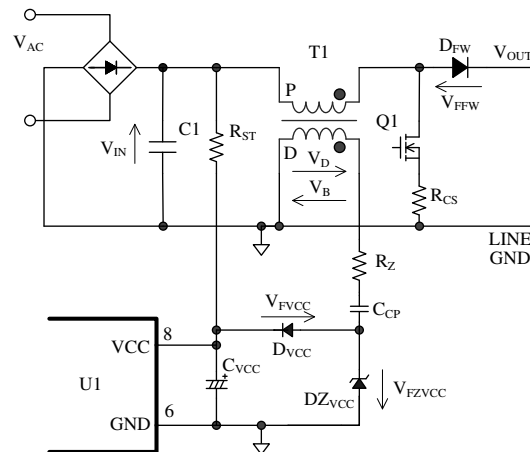

Figure 9-2 VCC pin peripheral circuit
When power supply of VCC pin is supplied from auxiliary winding as shown in Figure 9-2, the condition of N_D/N_P is necessary to satisfy both Equation (7) and following Equation (11).